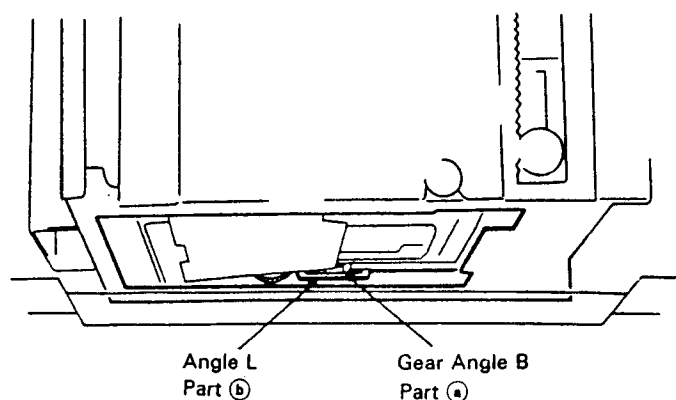

Fig. 4-3
Looking from the top, conform that part ③ of the gear angle B and part ④ of the angle L are parallel. (Refer to Fig. 4-3.)